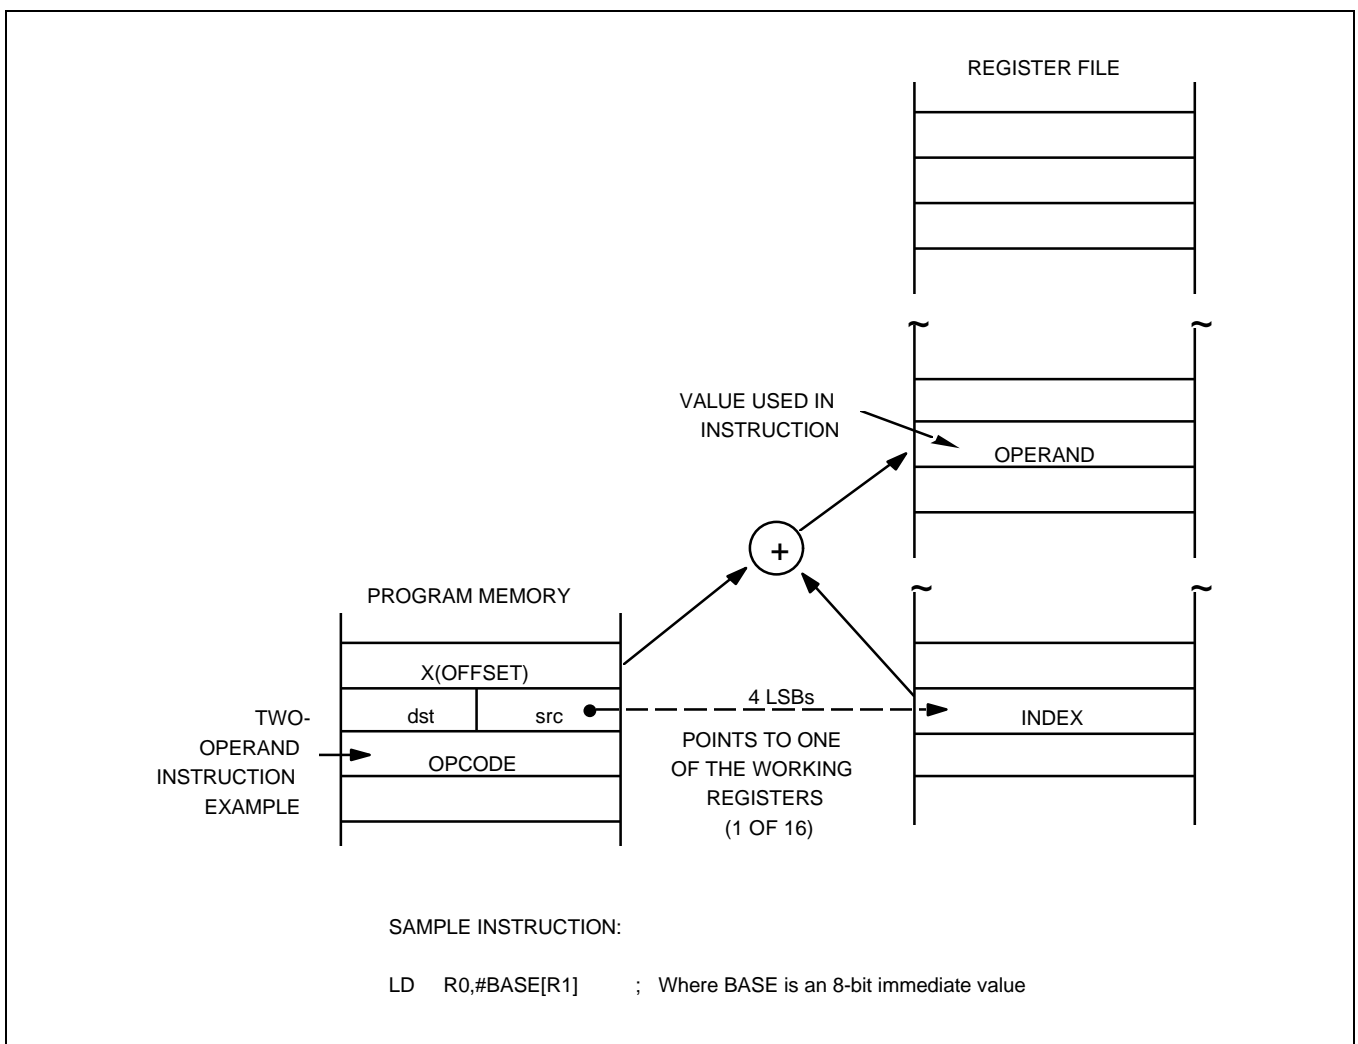

Figure 3–7. Indexed Addressing to Register File
Indexed (X) addressing mode adds an offset value to a base address during instruction execution in order to calculate the effective operand address (see Figure 3–7). You can use Indexed addressing mode to access locations in the internal register file or in external memory.
In short offset Indexed addressing mode, the 8-bit displacement is treated as a signed integer in the range –128 to +127. This applies to external memory accesses only (see Figure 3–8).
For register file addressing, an 8-bit base address provided by the instruction is added to an 8-bit offset contained in a working register. For external memory accesses, the base address is stored in the working register pair designated in the instruction. The 8-bit or 16-bit offset given in the instruction is then added to the base address (see Figure 3–9).